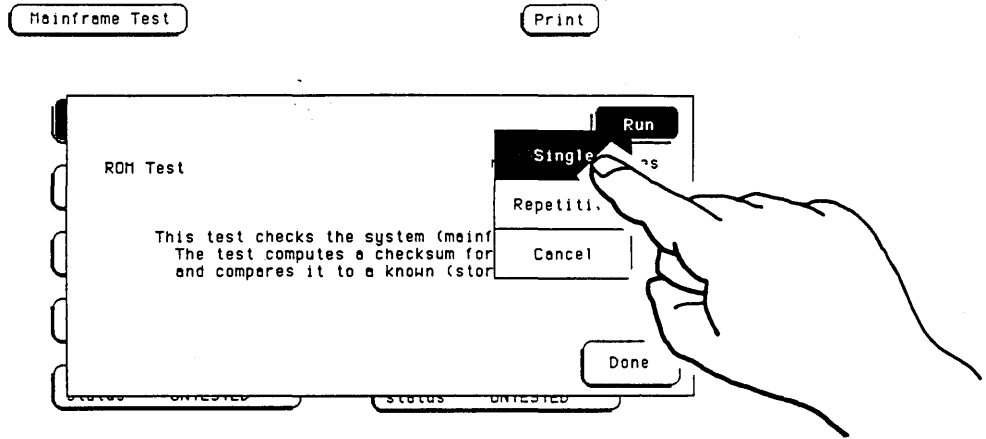

Figure 6-12. Choosing the Single or Repetitive Mode.
c. Touch the **Run** field and slide your finger downward on screen to **Single**, **Repetitive** or the **Cancel** field and lift your finger off the screen. The test sequence is not started if the **Cancel** field is selected (see figure 6-12).